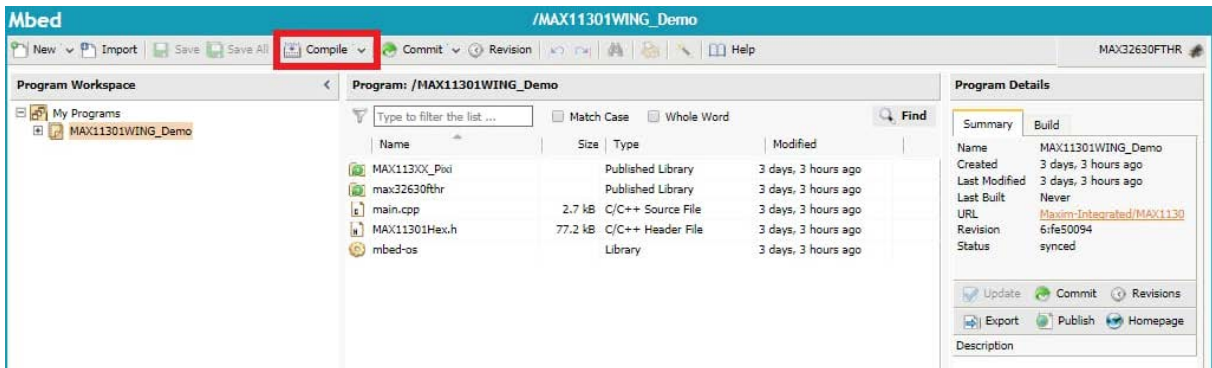

Figure 8. Highlights the Compile command button in the Mbed compiler with a red box.
- With the MAX11301WING\_Demo program selected in the program work space, click the **Compile** button in the command banner at the top of the screen. **Figure 8** highlights the **Compile** button. This initiates the download of the program's binary file.